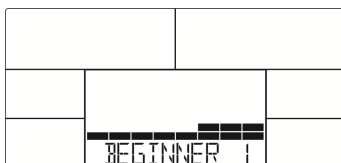

FIG. 14
2. Press UP or DOWN (Encoder) to select beginner MODE 1 to 4 (Figure 14) and press MODE/ENTER to confirm entering.